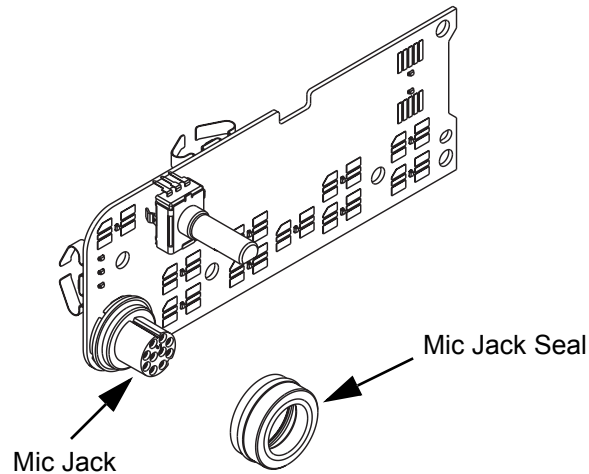

Figure 5-24 Assembling Mic Jack Seal
- a. Assemble the mic jack seal around the mic jack as shown in Figure 5-24.